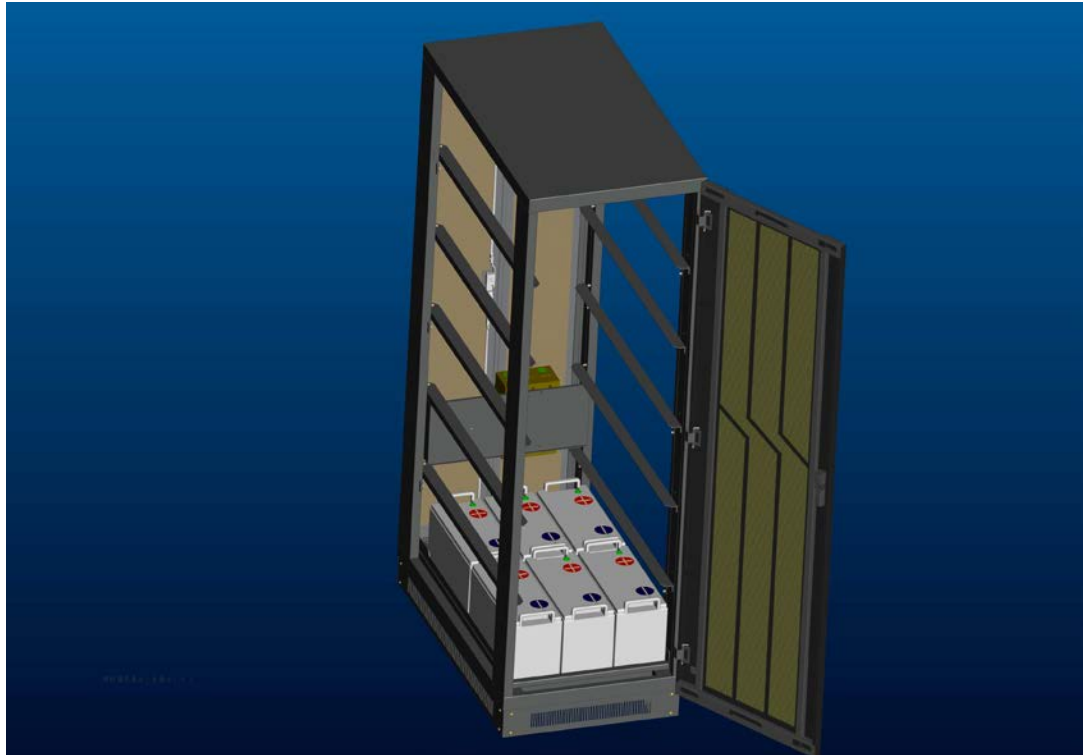
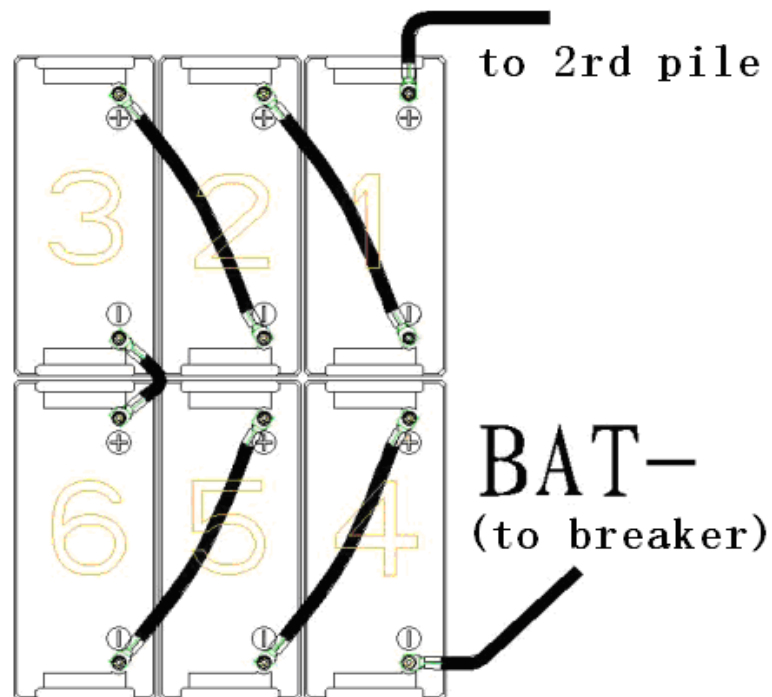

Figure 3
Figure 4
2.2 Remove the battery bases and top covers of the 2nd, 3rd, 4th, 5th, 6th layer respectively , Put the batteries on the first base according to the wiring diagram, then do the connection and lock the cables of the battery pole tightly as the Fig.3 shows; the connection is shown as Fig.4.